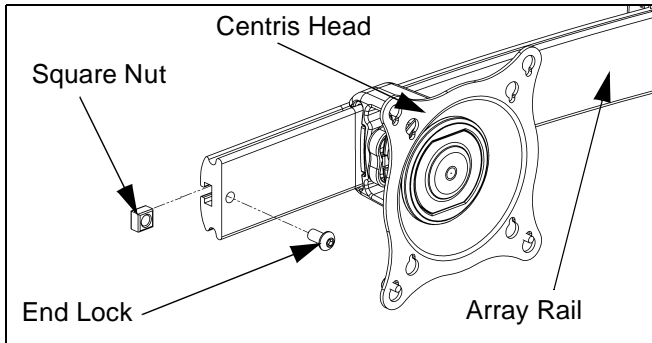

Figure 6: Remove End Lock(s)
1. Uninstall end lock using the 5/32" hex key (80). (See Figure 6)